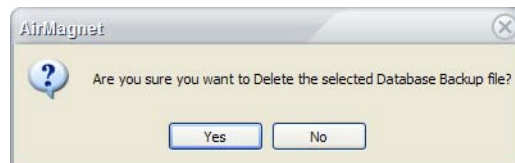

Figure 4-57: A reminder on deleting a database backup file
- 2) Click the **Delete** button. A message appears on the screen. See Figure 4-57.